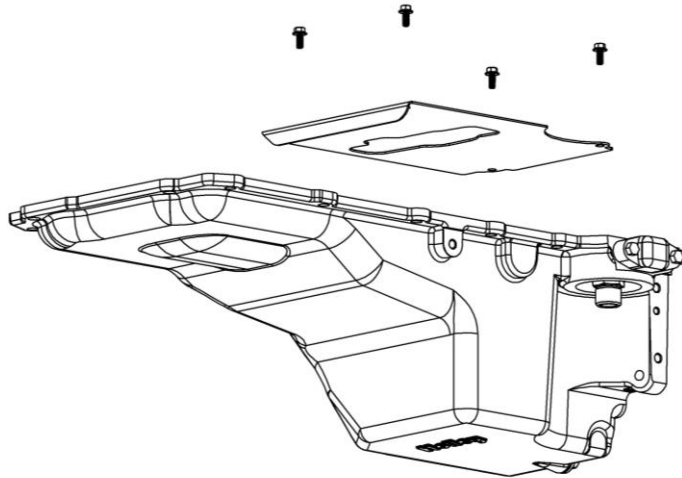

Figure 1
9. Disassemble the Holley oil pan as shown (**Figure 1**).